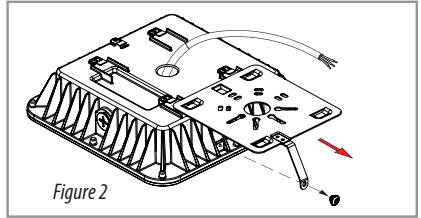

Figure 2
1. To get started, turn off the power at the circuit breaker. Then, loosen the screw on the side of the housing and pull out the connecting plate. (Figure 2)